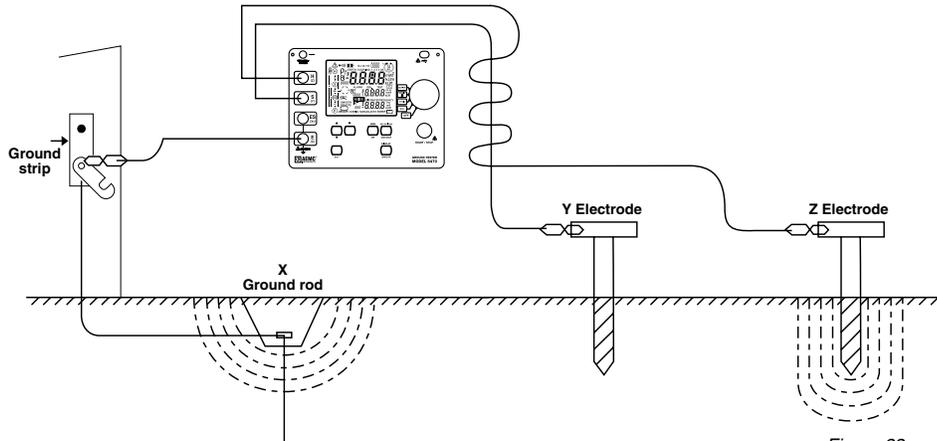

Figure 23
**A)** Braid the auxiliary cables together. This often has the effect of canceling out the common mode voltages between these two conductors. (Figure 23)